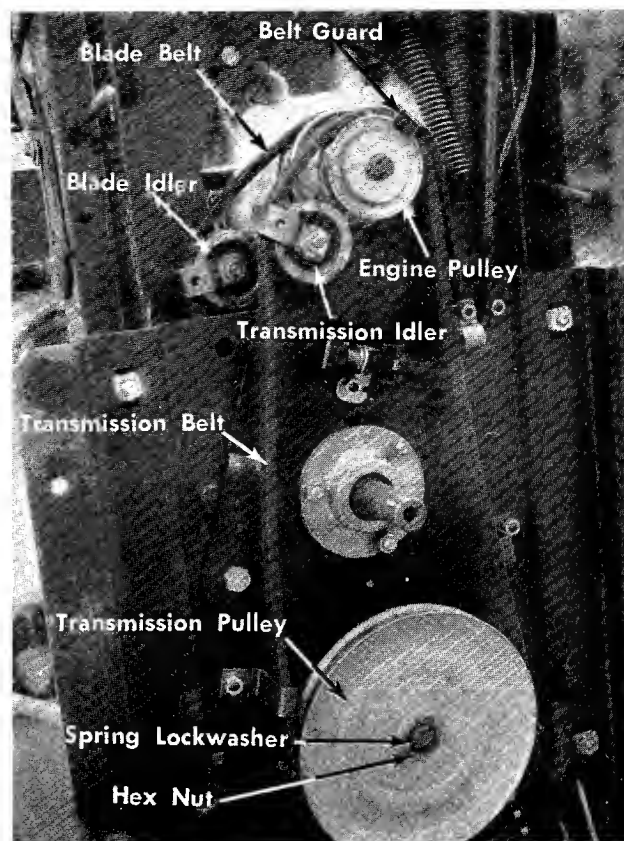

FIGURE 24. BELT SYSTEM
Step 4. Remove the transmission belt from the engine pulley. It may be necessary to spring the belt guard out of the way. When installing the new belt be sure to put the belt guard back in the original position. See figure 24.
Step 6. Remove hex nut and spring lockwasher on the transmission pulley and slide the pulley out until the belt can be removed. See figure 24.
Step 4. Remove the transmission belt from the engine pulley. See figure 24.
It may be necessary to spring the belt guard out of the way. When installing the new belt be sure to put the belt guard back in the original position. See figure 24.
CREEPING OR BELT WEAR. See figure 24.
DRIVE PULLEYS. See figure 24.
BELT WEAR—Belt Guards and Clips. See figure 24.
CREEPING. See figure 24.